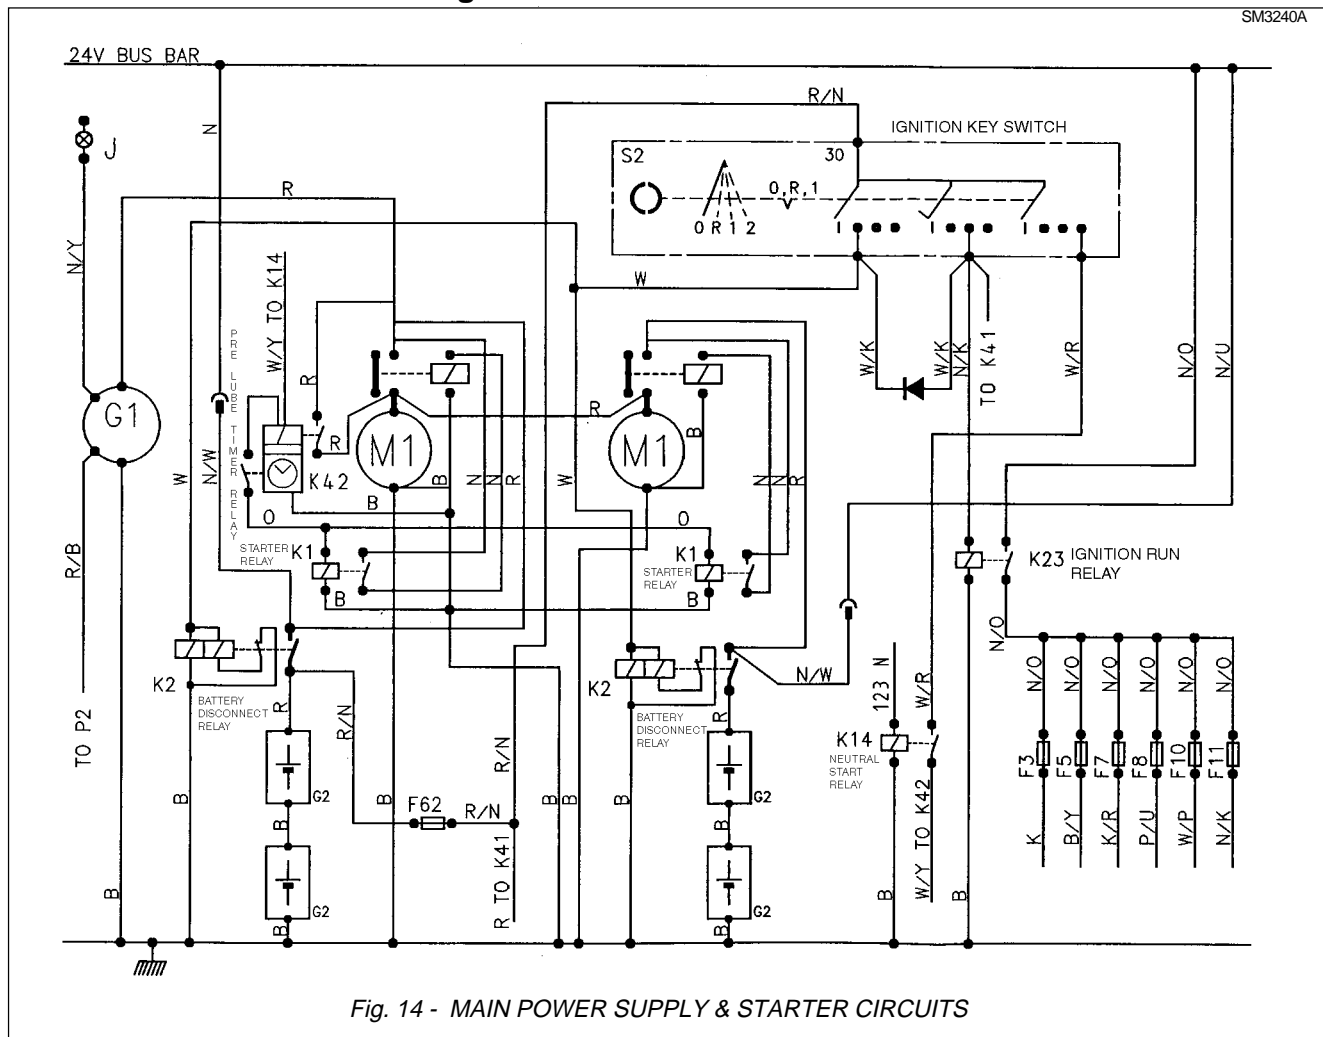

Fig. 14 - MAIN POWER SUPPLY & STARTER CIRCUITS
Refer to Fig. 14
The truck will not be able to start up unless the transmission gear shift selector is in the neutral (N) position. An electrical signal via wire number 123 (Ref. Fig. 14), from the transmission ECM will energise the neutral start relay, Only if the gear shift selector is in